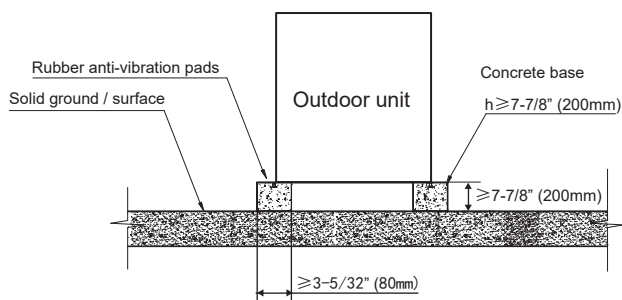

Figure 5.3 Base Structure
- 5) A typical concrete base design is shown in Figure 5.3. The edges of the base should be chamfered.